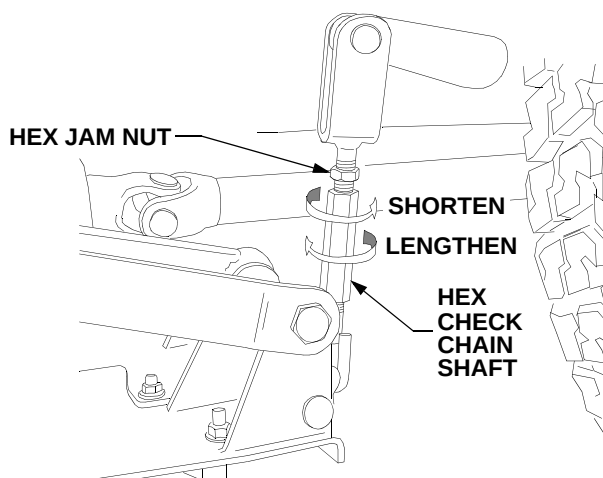

Figure 50
- Move to the left side of the tractor, to the deck check chain assembly. Loosen the jam nut on the check chain. Refer to Figure 50.
- Depending on whether the left side of the deck was higher or lower than the right side, turn the hex shaft of the chain assembly as needed to level the blades to within 1/16" of each other. Turn the hex shaft to the right to shorten the adjustment chain and raise the left side of the deck. Turn the hex shaft to the left to lengthen the chain and lower the left side of the deck. See Figure 50.
- Tighten the hex jam nut against the hex check chain shaft. Refer to Figure 50.